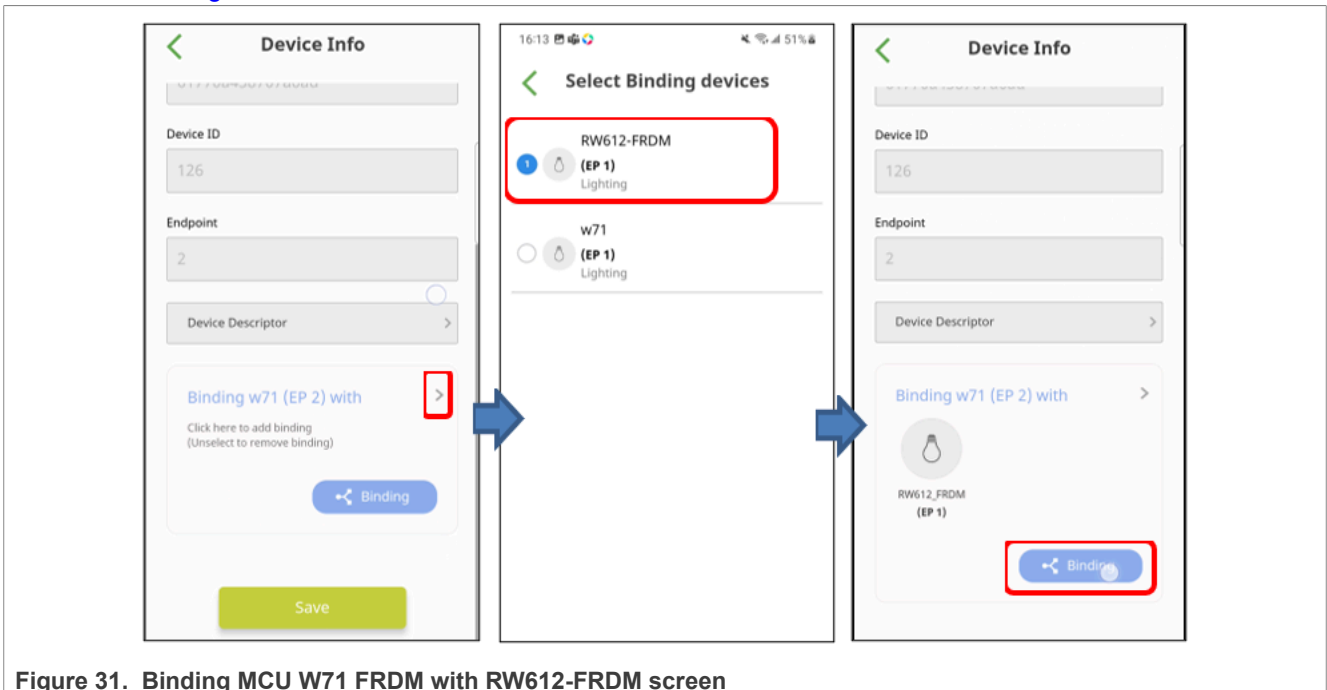

Figure 31. Binding MCU W71 FRDM with RW612-FRDM screen
1. Enter the information page of MCU W71 FRDM (EP2) and select binding device RW612- FRDM (EP1) as shown in Figure 31